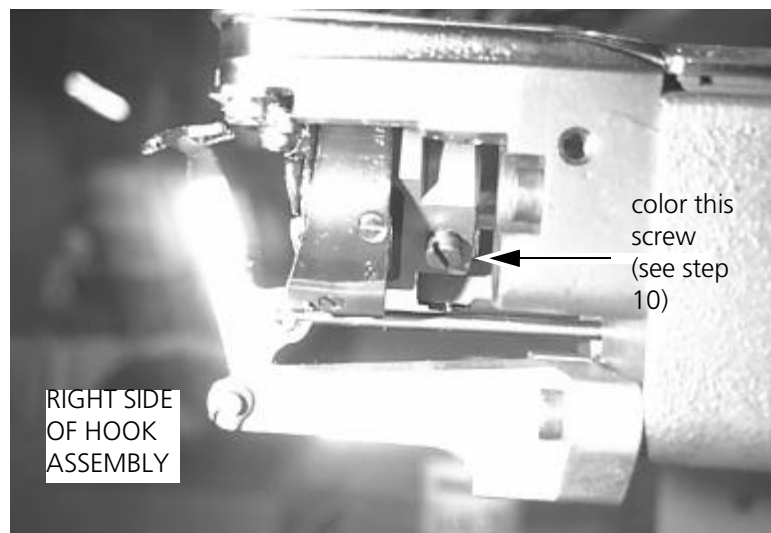

Figure 4-11
10. While the hook is still in the HOOK TIMING position, color the screw on the RIGHT side of the hook (see Figure 4-11) with a felt-tipped marker.
Figure 4-11 identifies those components that comprise the trimmer system: the adjustable fixed knife, the movable knife, and the under thread presser. These components are covered by the front bed cover and the needle plate (see inset in Figure 4-11). Remove the screws holding these covers to gain access. You may test the trimmer adjustments without the covers in place, but all covers must be installed while embroidering.